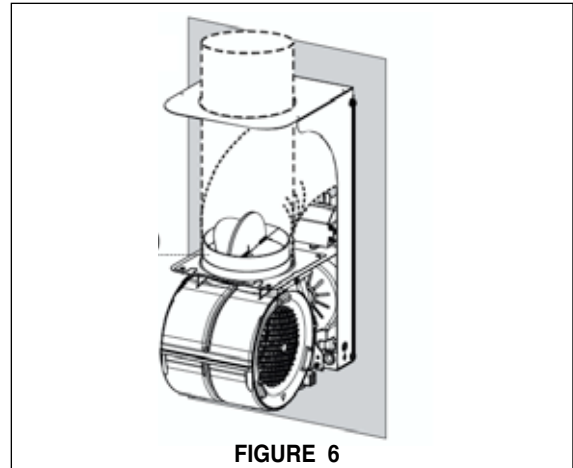

FIGURE 6
1. The Cylindra hood offers flexibility in ducting. See (FIGURE 6), using 6" rigid metal ducting, the hood can be ducted straight up or with an elbow to the back of the hood at the 6 7/8" tall x 6 11/16" wide opening next to the wall.